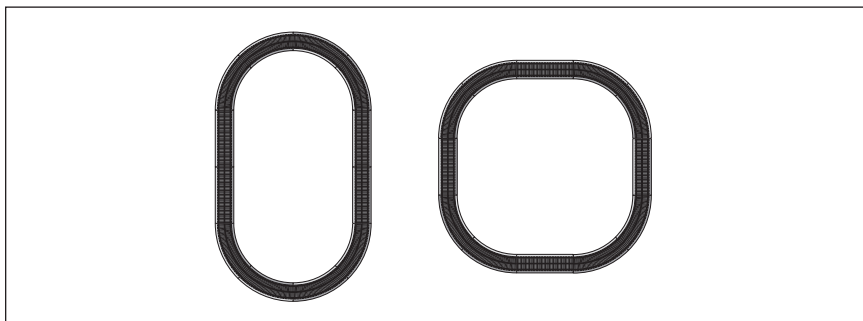

Figure 2. Track layout
**Y**our set comes with eight curved sections, two 10" straight sections, one wall-pack terminal section of track, and one 10" Plug-Expand-Play FasTrack lock-on. Figure 2 shows the oval layout that you can build with these track sections. You may choose to add more FasTrack track sections to create an endless number of exciting track arrangements for more fun, action, and variety.